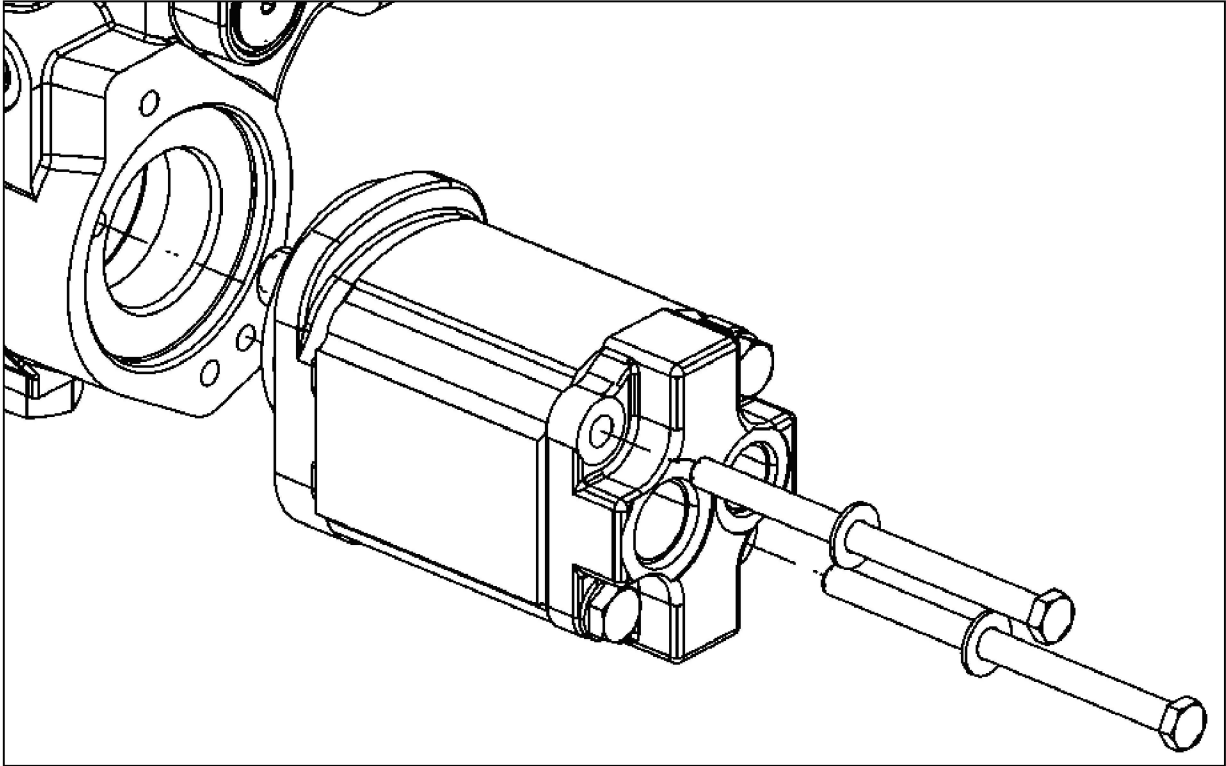

Figure 20
23. Install P.T.O. Pressure Switch, part# 379502, into port on Hydraulic Valve Cap. Torque to 120-140 In. Lbs. **(Figure 20)**